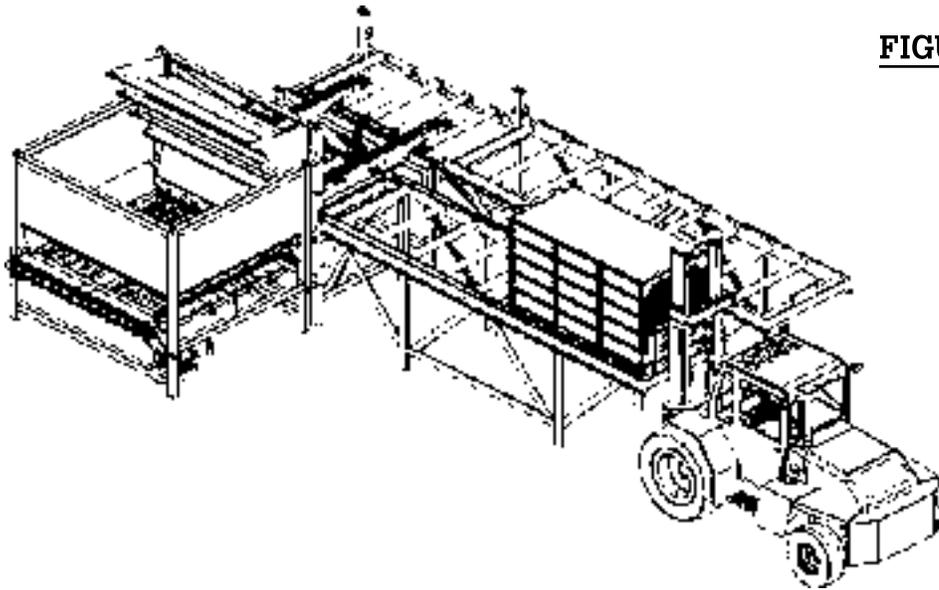

FIGURE 7
- Note that the standard unloading system as shown may contain up to six (6) chicken cages at a time. Three (3) chicken cages on the incoming side and three (3) chicken cages on the outgoing side. After the safety device has been reset and the safety arm is up, the forklift operator can set a loaded chicken cage at the end of the incoming conveyor. (See Figure 7)